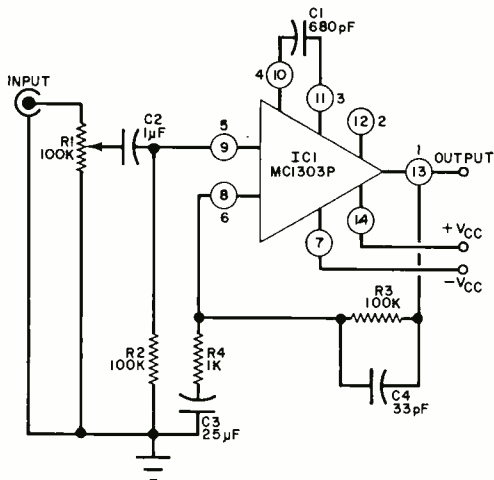

Fig. 1. The general-purpose broadband preamplifier is useful for microphone and tuner inputs. Only half of stereo system is shown in all diagrams.
A built-in power supply (see Fig. 1)
Fig. 1. The transistorized crystal oscillator and buffer are fed from a regulated power supply. They drive the compactron which delivers the 10 watts to the antenna through a matching network.
Circuits. For a broadband, general-purpose preamplifier, use the circuit shown in Fig. 1. Only half of the circuit is shown with the terminal connections to the IC shown in the circles. For the second channel, duplicate the circuit, but use the IC pin numbers that are outside the circles in Fig. 1. Note that pins 2 and 12 are not used and that the volume controls for the halves are concentric.
To prevent possible damage to the IC, you may find it advantageous to use a 14-contact, in-line IC socket (see Parts List for Fig. 1). You can then complete the wiring of the circuit and examine it for possible errors without subjecting the IC to the possibility of heat damage or accidental voltage reversal. Note that the IC has a standard orientation mark on one end. Looking down at the top of the IC, the pins are numbered from 1 to 14
- Misc.—See Fig. 1.